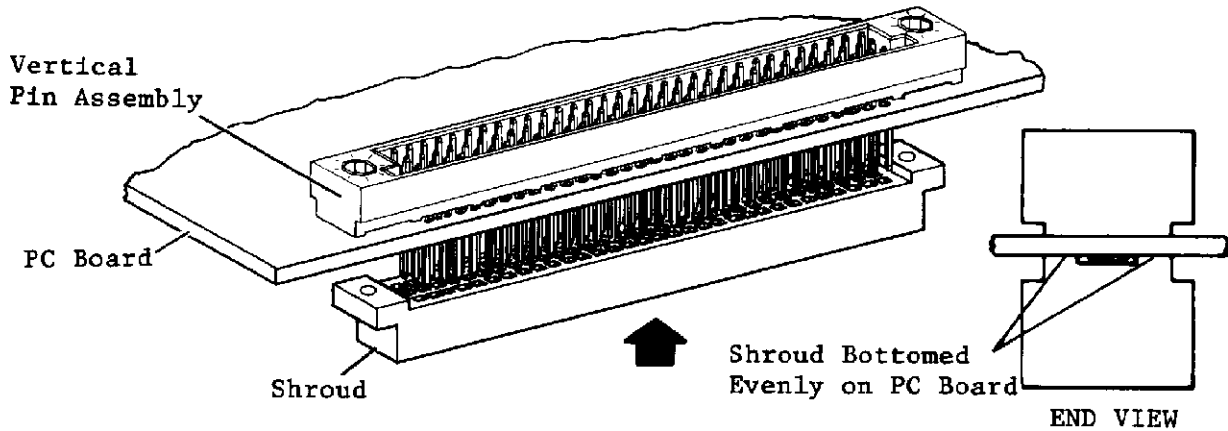

Fig. 6. Shroud Application
D. Mating capabilities may be expanded through use of a shroud. When a shroud is used, the operator shall ensure that the proper size is selected and that the shroud is applied in correct polarization to its mating connector. The shroud shall be manually pressed over the pins until it bottoms evenly on the mother board as shown in Figure 6.